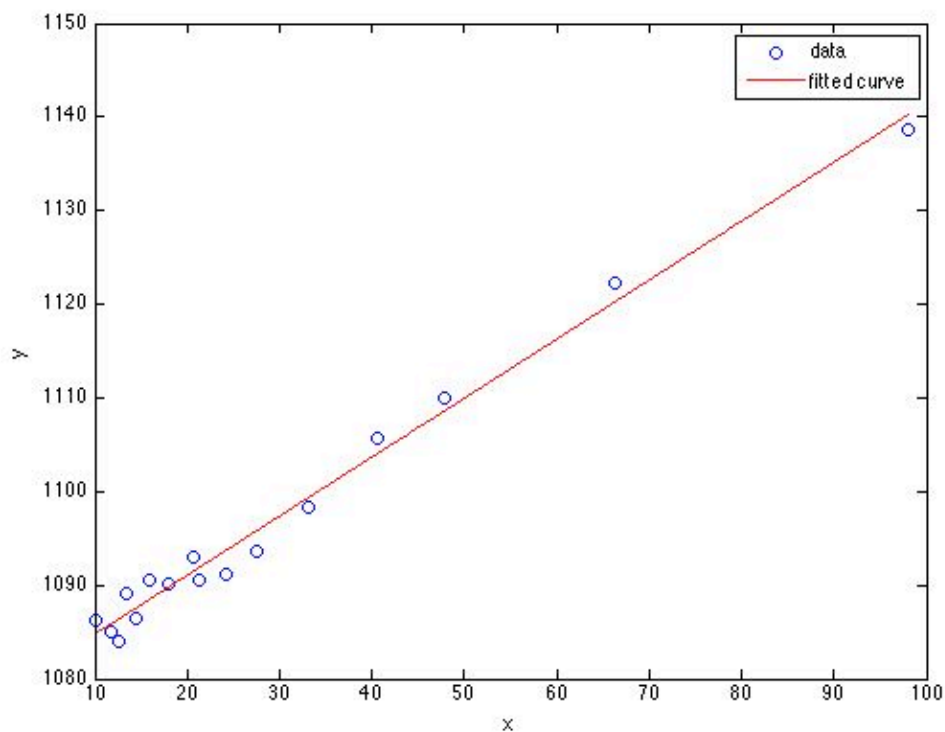

Figure 1. Model plot showing the experimental data as points and the model's predictions as a line.
In the present case, there is one independent variable in the model (x), and the model does include the y-intercept, b . It is trivial to generate the set of x and y values to be used in the fitting process: simply take the reciprocal of each of the C_S and r_P values to calculate corresponding x and y values according to equations (5) and (6). When this information and input data are provided to whichever linear least squares fitting tool one chooses to employ, the resulting output shows that the correlation coefficient, r^2 , is greater than 0.99, the best value of the slope, m , is equal to 0.63 ± 0.04 min and the best value of the y-intercept, b , is equal to 1080 ± 2 min M⁻¹. (Here the uncertainties are the 95% confidence limits, other least squares fitting tools might provide different measures of the uncertainties in the fitted parameter values.) In most cases, a model plot like that shown in Figure 1 is also provided, but if such a plot is not provided, one can be generated easily.
the model to the data. In this case, the correlation coefficient of 0.99 indicates a good fit. Additionally, if the fit is accurate, then the scatter of the experimental data about the model should be small and random; there should not be any systematic deviations of the data from the model. Examining the model plot, Figure 1, it is apparent that these criteria are also satisfied. Thus, the model does appear to be sufficiently accurate and the values of the slope and intercept can be accepted, that is, the Michaelis-Menten rate expression does accurately predict the variation of the rate as a function of substrate concentration.